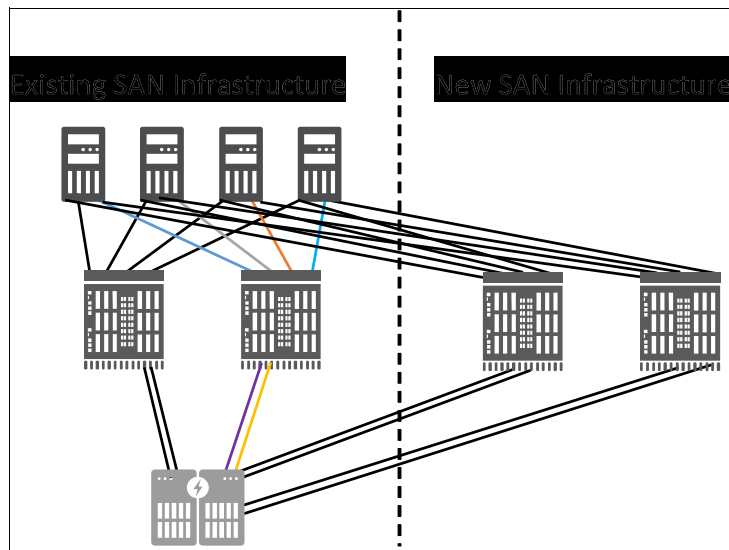

Figure 5-16 SAN Director migration example (integrating new SAN Directors/Switches)
- ▶ Attach all cables to server and storage as required, as shown in Figure 5-16.